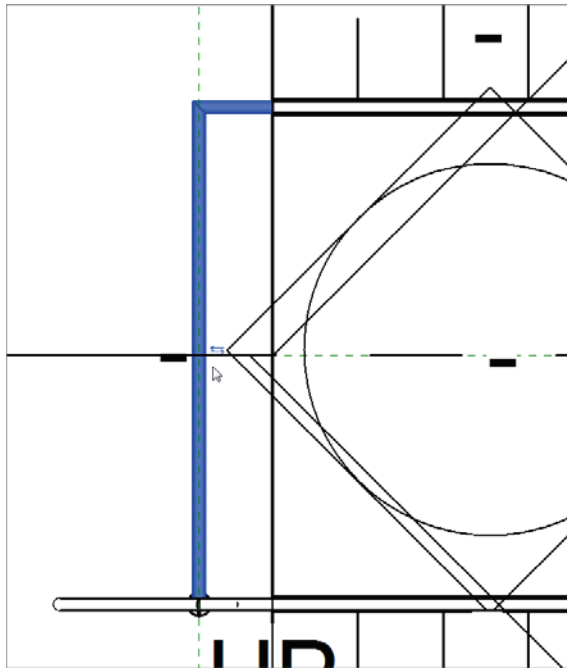

FIGURE 10.28 The finished railing
4. Click Finish Edit Mode. Figure 10.28 shows the finished railing.